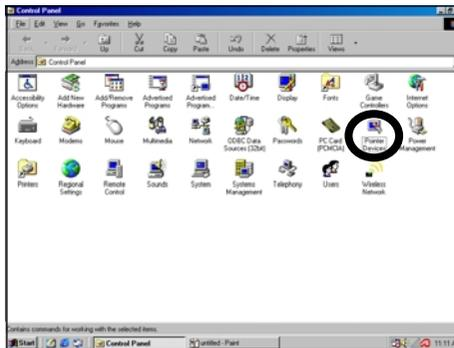

Figure C.1 Control Panel
1. Start by opening the Control Panel (Figure C.1).